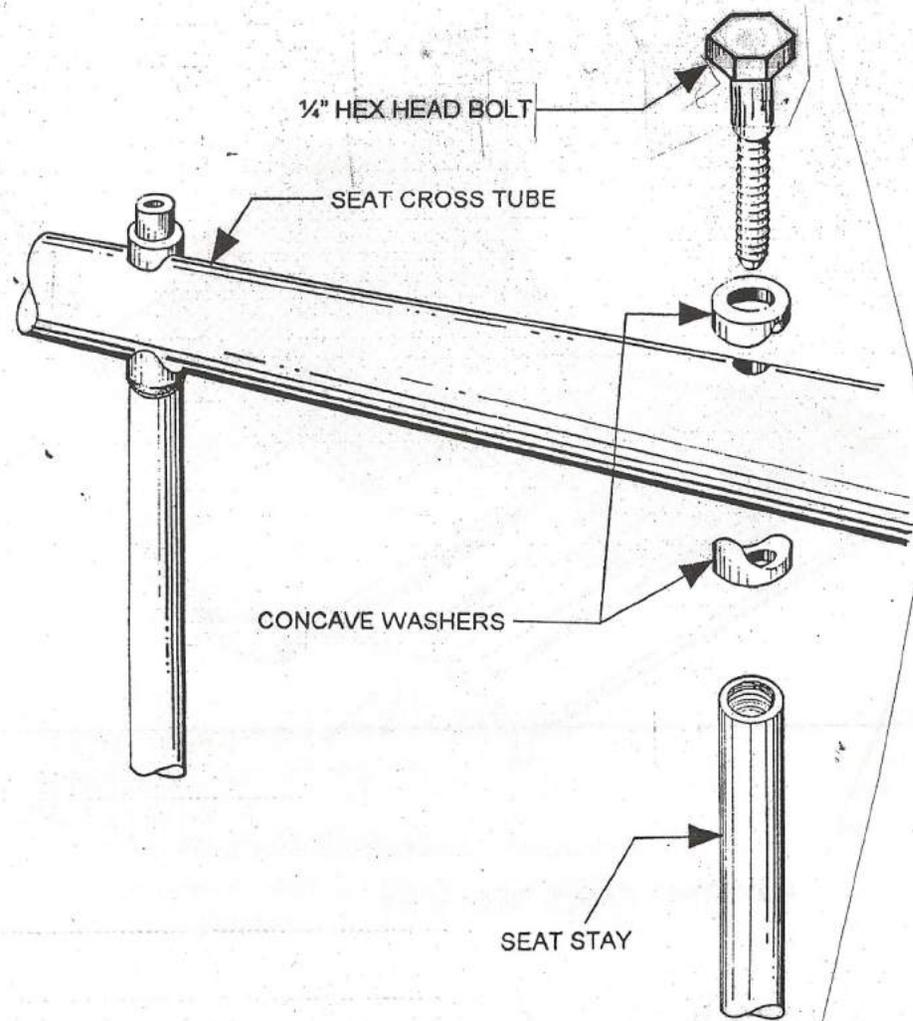

Fig. 1-1
- D) Loosely bolt the seat onto the frame using the included hardware, (see Fig. 1-1). It is recommended that the screws, and the seat where it contacts the frame, be coated with grease to prevent corrosion. Tighten all seat bolts tight.